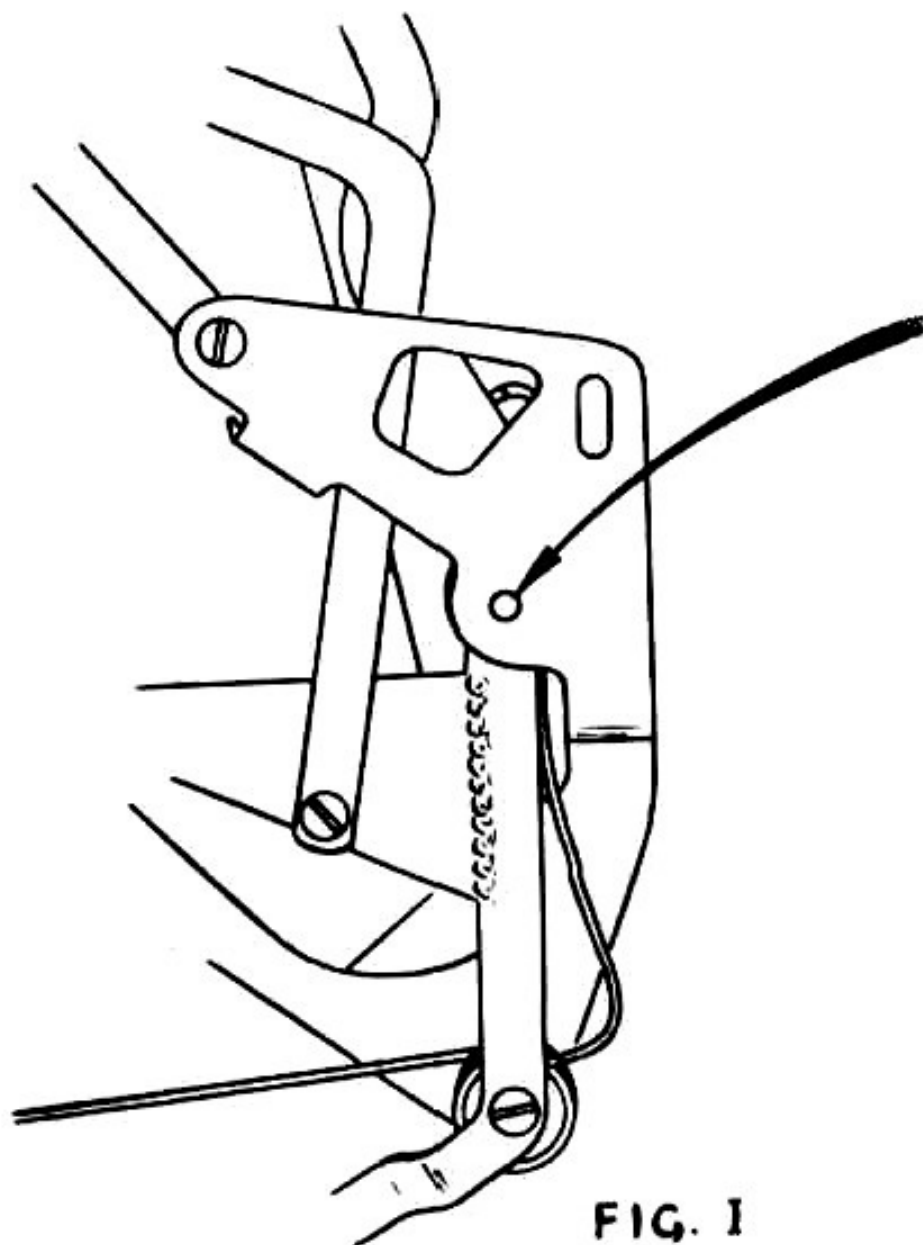

FIG. 1
2. Fit a jiggling bolt in frame members, both sides. Figure 1 of illustration.